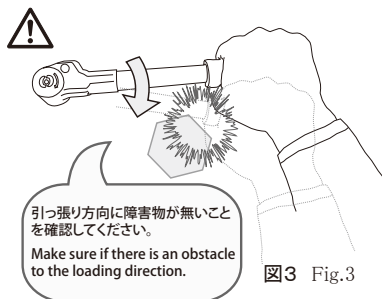

図3 Fig.3
- 狭い所での締め付け作業では手やひじに注意して下さい。(図3)
- Use the torque wrench only where there is sufficient clearance and freedom of movement. You may select another wrench, if necessary.(Fig.3)